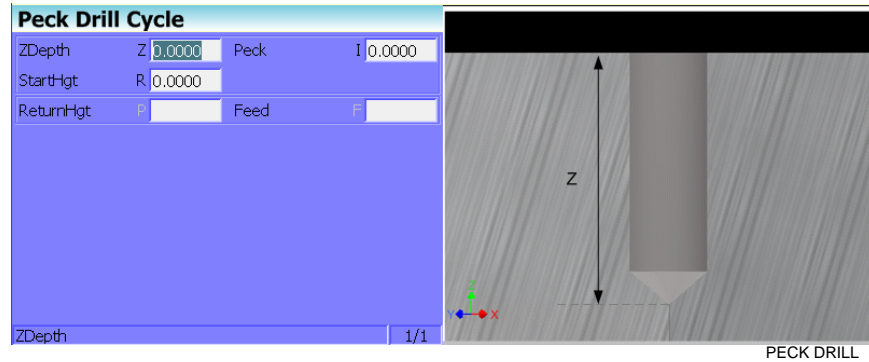

Figure 4-3, Peck Drill Cycle Graphic Menu
2. Highlight **Pecking** and press **ENTER** to display the Peck Drill Cycle Graphic Menu. Refer to **Figure 4-3, Peck Drill Cycle Graphic Menu**.